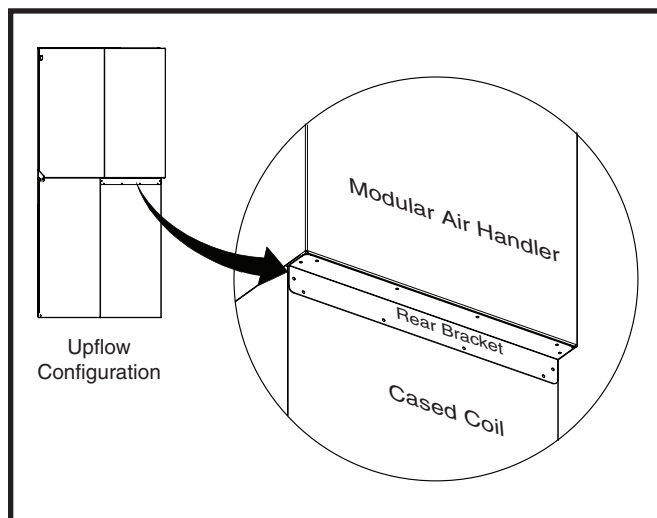

Figure 2. Rear Bracket Installation - (Upflow Only)
2. Carefully place the modular air handler on top of the cased coil making sure not to damage the cased coil flanges. The units will be flush in front with an overhang in the back as shown in Figure 2.